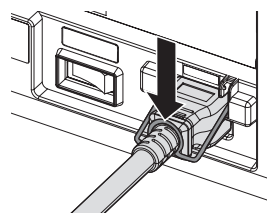

Fig. 4
- 4) Press down the power cord holder until the end of the power cord holder snaps onto the power cord to secure the power cord. (Fig. 4)